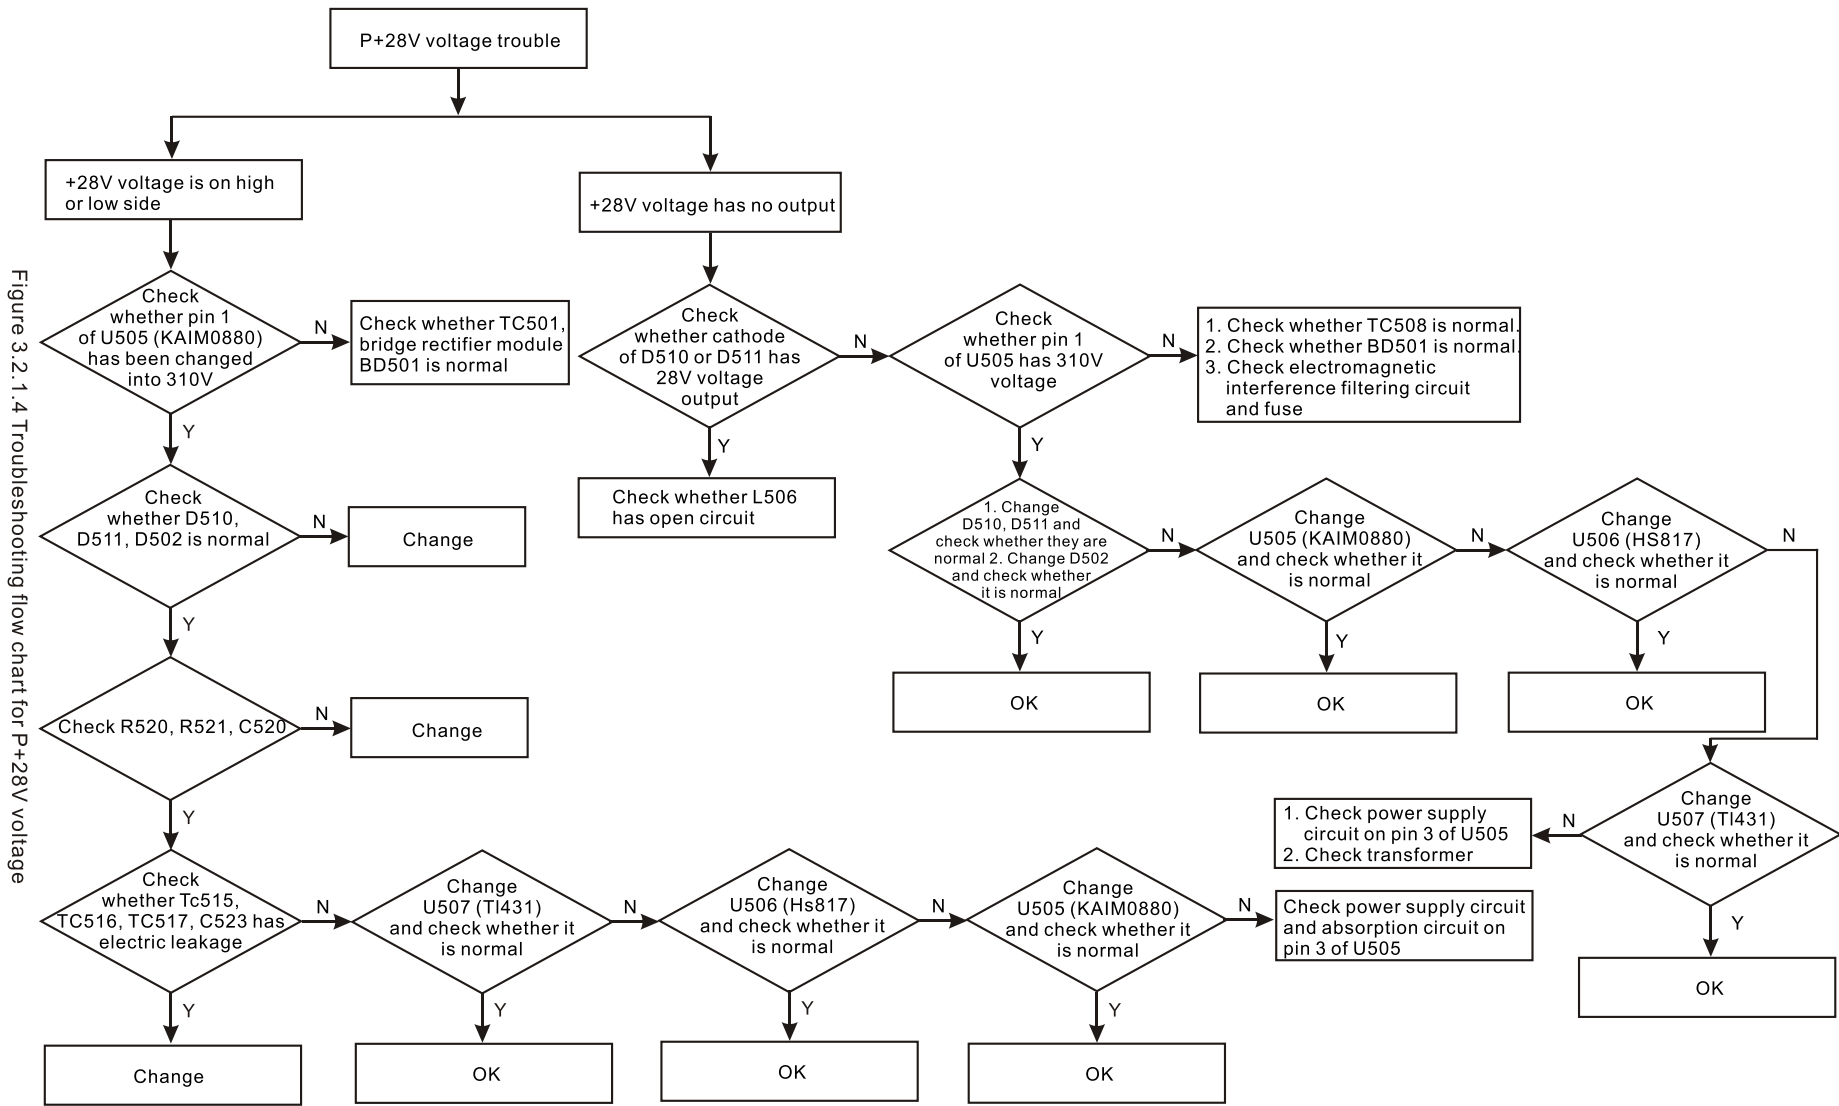

Figure 3.2.1.4 Troubleshooting flow chart for P+28V voltage
(3) Troubleshooting process for P+28V voltage is shown as the following figure 3.2.1.4: